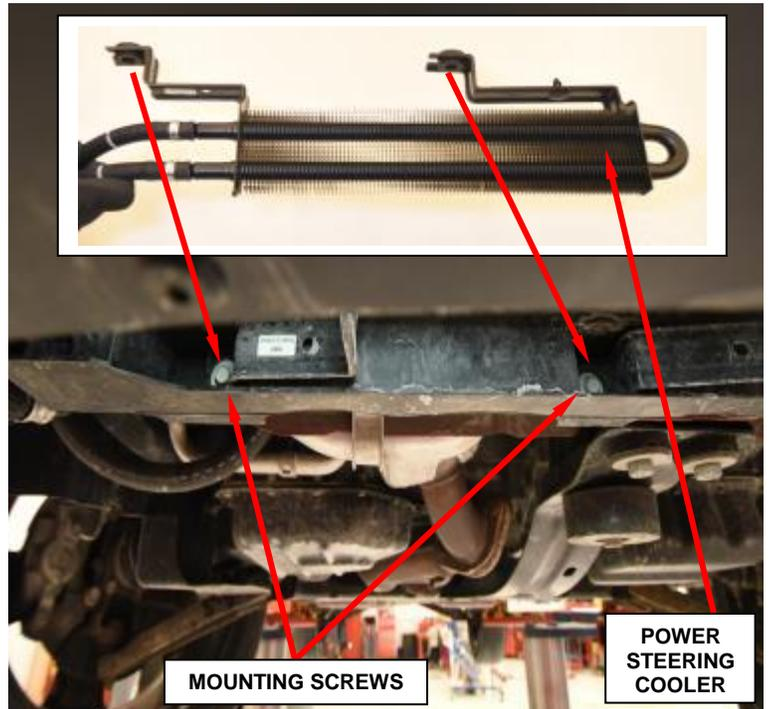

**Figure 3 – Close Out Panel**
8. Remove and save the six close out panel to fascia push pins (Figure 3).
9. Remove and save the remaining seven close out panel push pins and remove the close out panel (Figure 3).